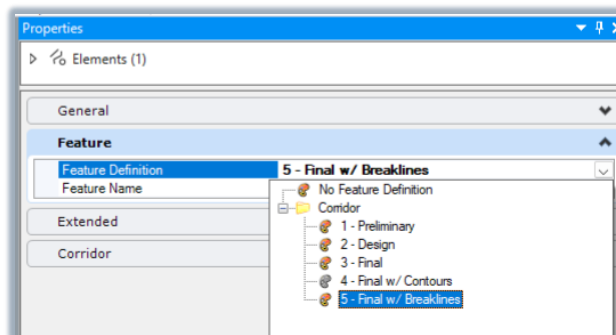

Figure 1 – Setting Corridor Feature Definition
- a. Set corridor feature definitions to “5 – Final w/ Breaklines” (see Figure 1)